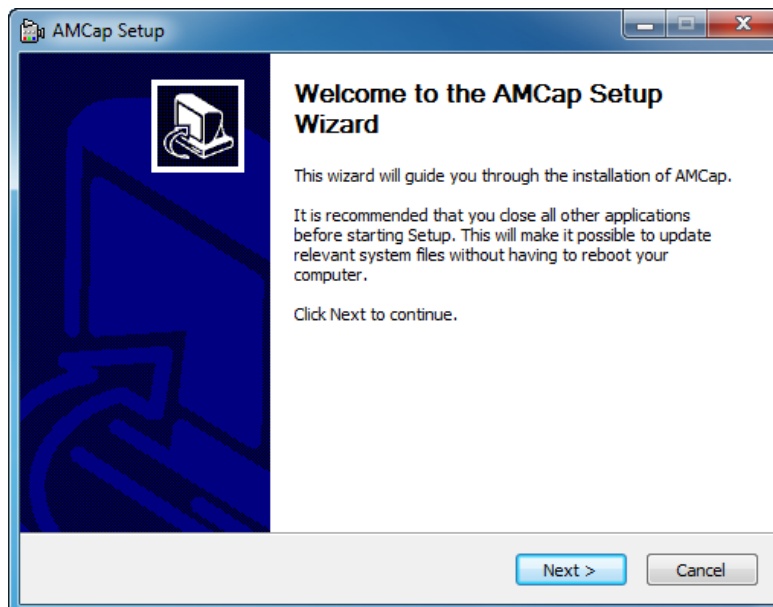

Figure 5-48: AMCap Driver Choose Install Location
Step 6: Browse for an install location or use the one suggested (Figure 5-48).